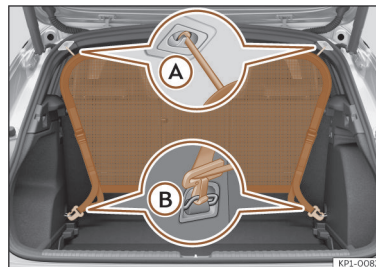

Fig. 189 Net partition fitted.
- Hook the net partition to the left-hand side roof housing >>> **Fig. 189** A. Be sure to pull the cross rod down past the upper position.
- Hook in the net partition on the rear right-hand side roof housing by pressing on the bar >>> **Fig. 189 (A)**.
- Secure two hooks of the partition net to the fastening rings of the boot >>> **Fig. 189 (B)** and tighten the straps firmly.